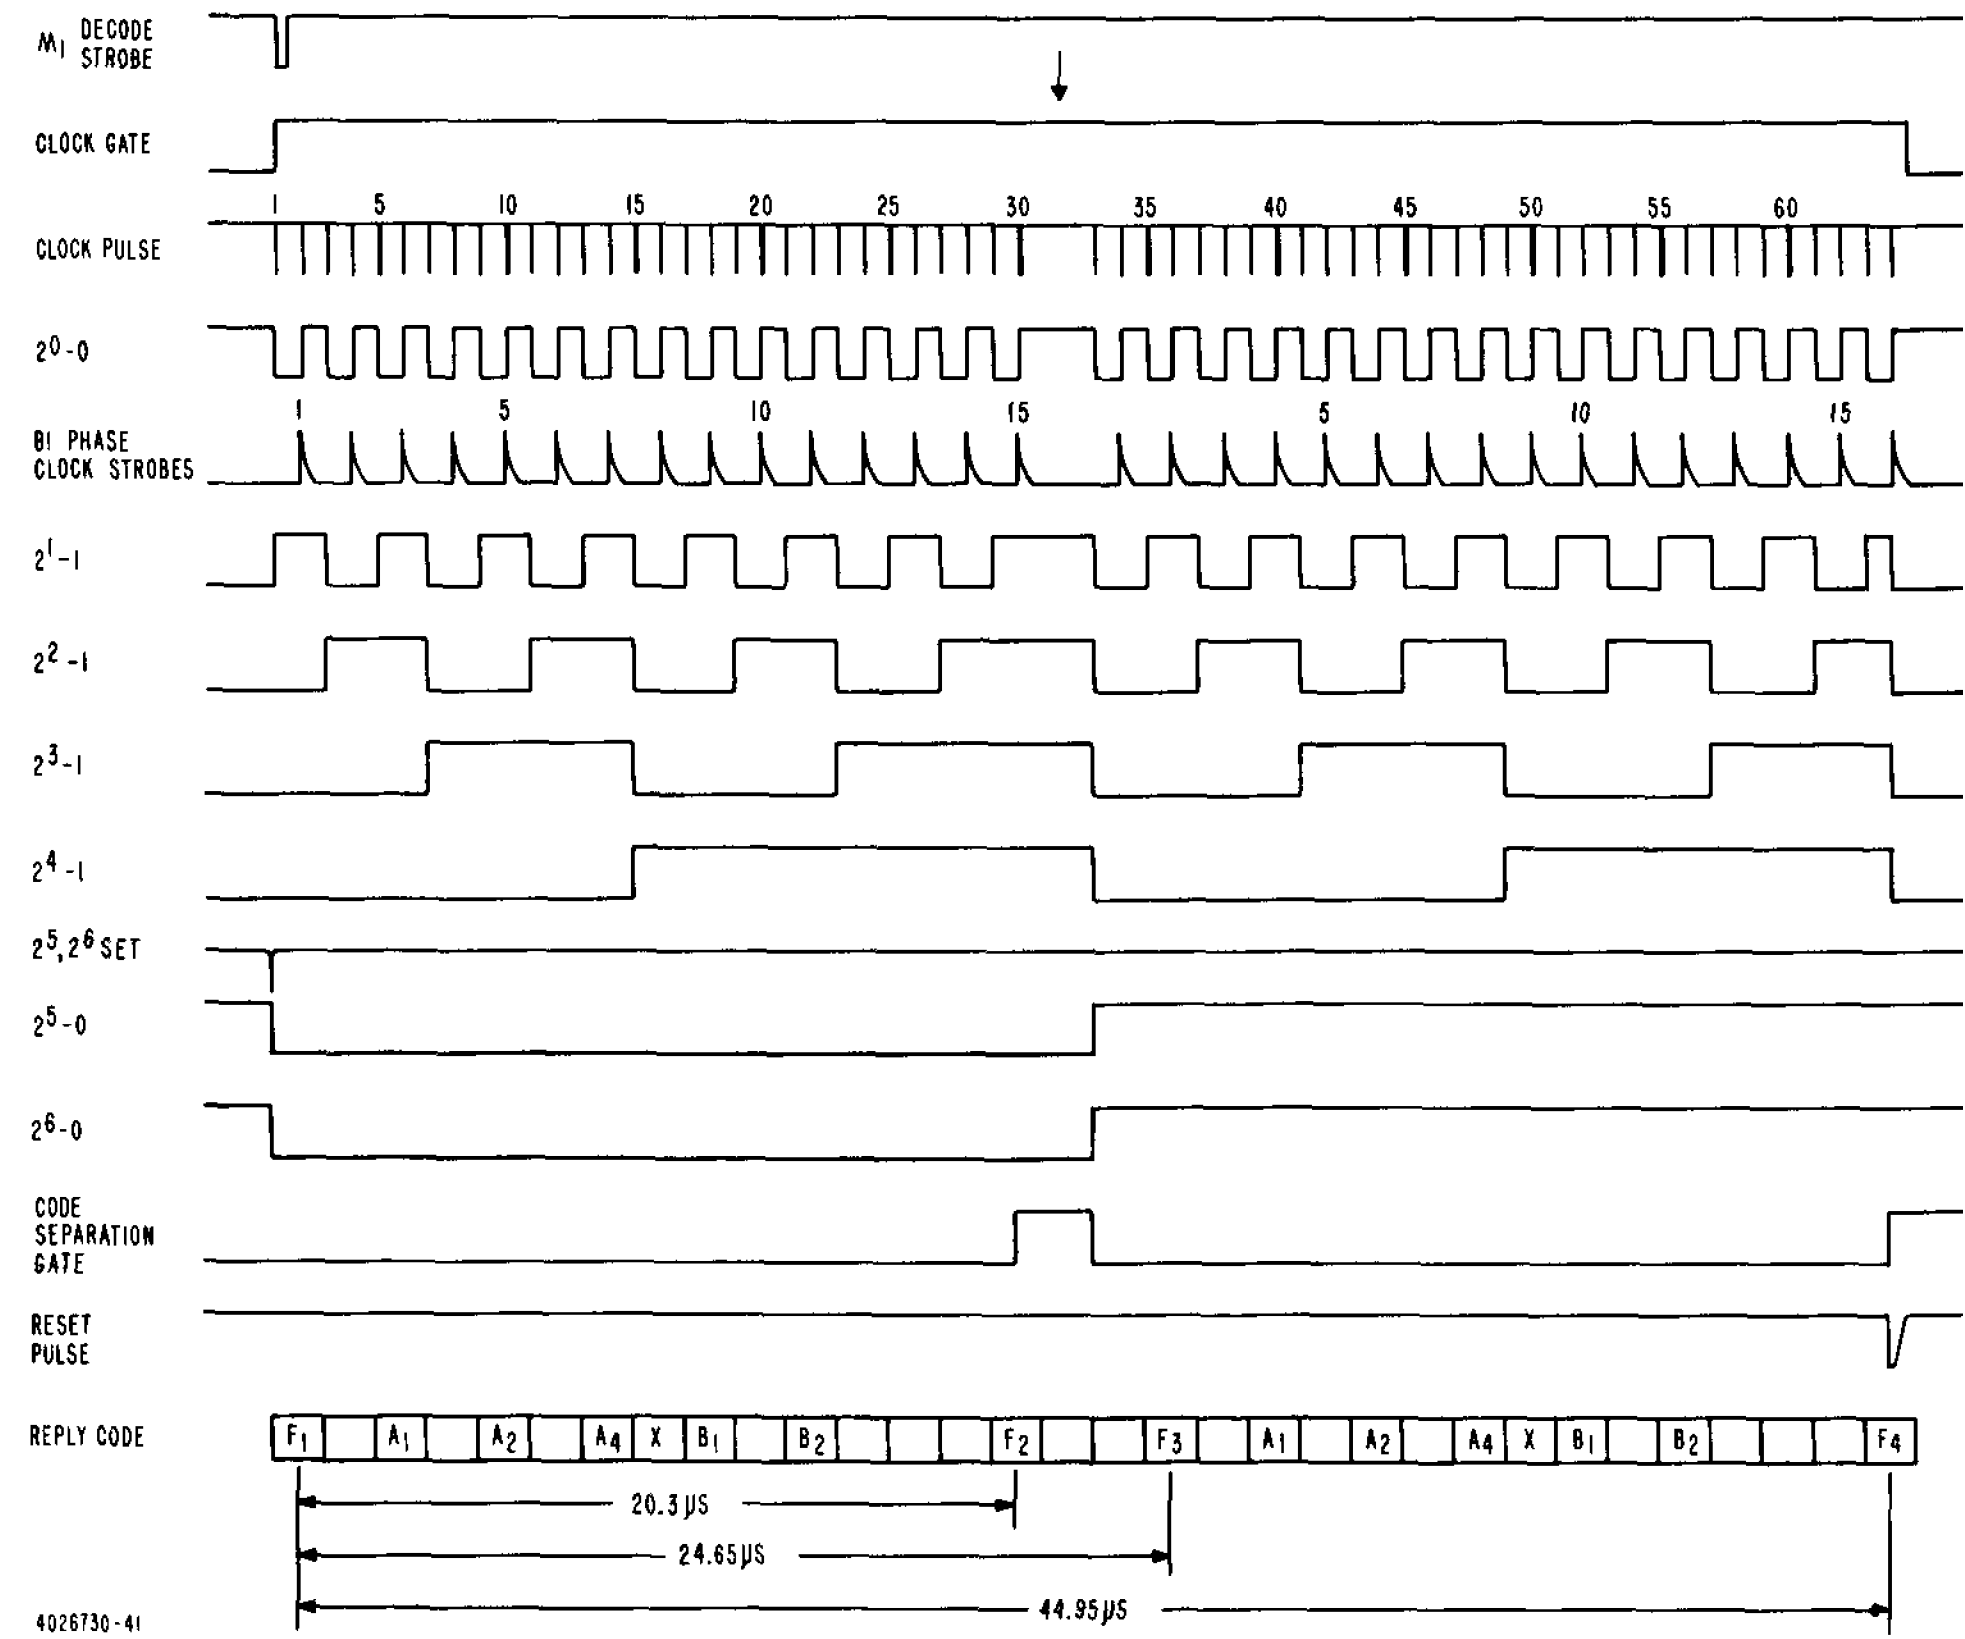

Figure 2-21. Identification of Position (I/P) Mode 1 Operation, Timing Diagram
1. In mode 1, the I/P reply consists of two frames containing normal replies (see figure 2-6). When a mode 1 interrogation is decoded the 2⁵ and 2⁶ set input is applied through terminal P activating (1A4B). The output of (1A4B) sets (1A3B) directly and (1B3B) through logical OR (1A3A). When (1B3B) and (1A3B) are set, their 0 outputs are low disabling (1B2B). Operation of (1C1A) will be inhibited until normal counter operation triggers (1B3B) and (1A3A) to clear state enabling (1B2B). When the code separation gate is applied through terminal U at the end of the first frame (see figure 2-21), (1B2B) is still disabled and the second frame of the I/P response will be